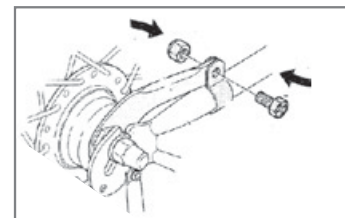

Fig. 72. Brake tightening
4. Tighten the brake, Fig. 72.